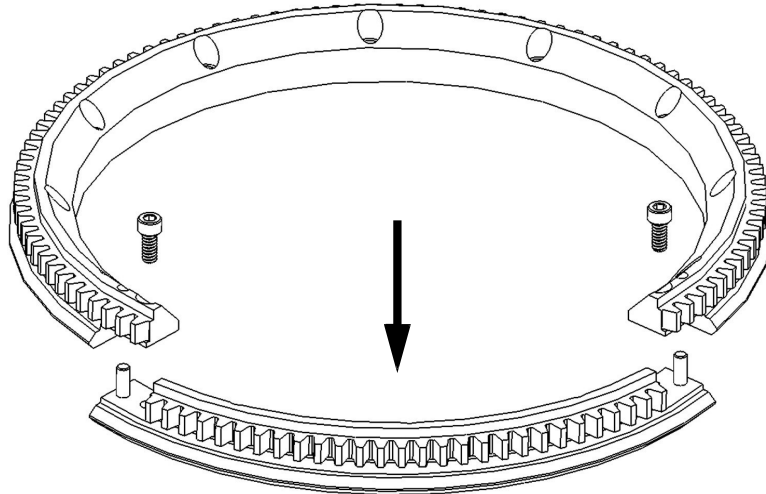

Figure 3 – Main Gear Exploded View
2. Remove the smaller section by pulling downwards as shown in the Figure 3.